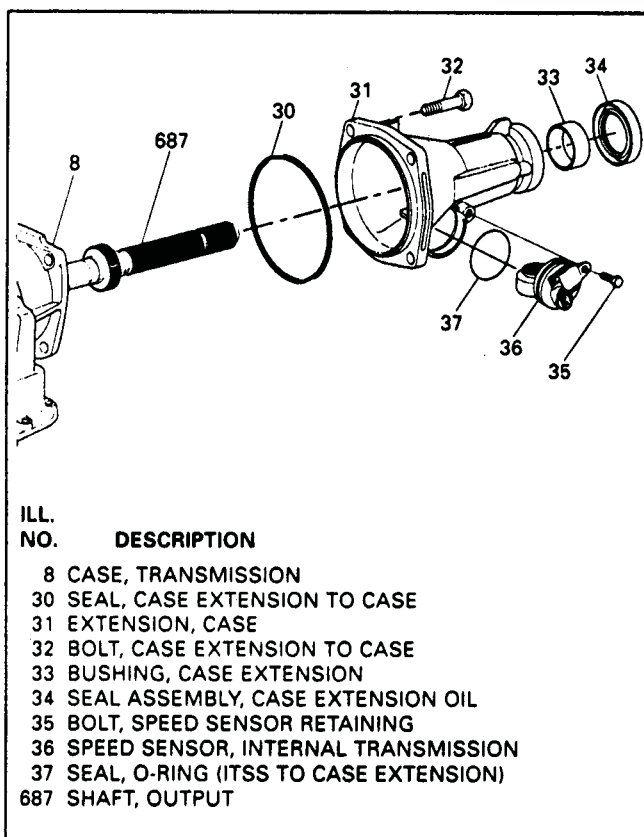

Figure 39
20. Remove 4 extension housing bolts, extension housing and "O" ring seal as shown in Figure 39.